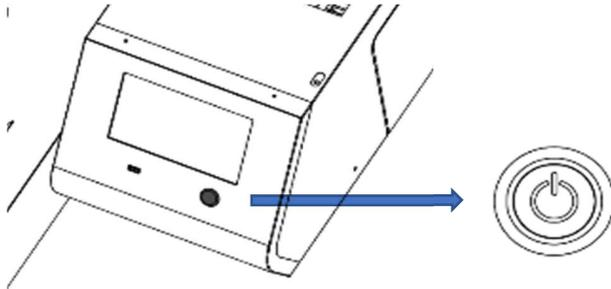

Fig. 1
- Hold the cartridge as shown in Fig. 1.
- Shake the cartridge in the direction of rotation left and right as shown in Figure 1.
- Make the ink cartridge reciprocate for 50 seconds in the direction of rotation of the arrow in Figure 1 in the left and right directions.